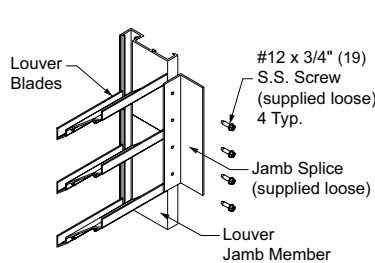

Fig. 3.2 Jamb Splice
2. Install the lower left section (as viewed from the exterior) following steps 2-4 above. If multiple sections high, install the upper left section(s) following steps 2-4 above. Install Jamb Splice and Stiffener Splice when required. See fig. 3.2 and 3.3.